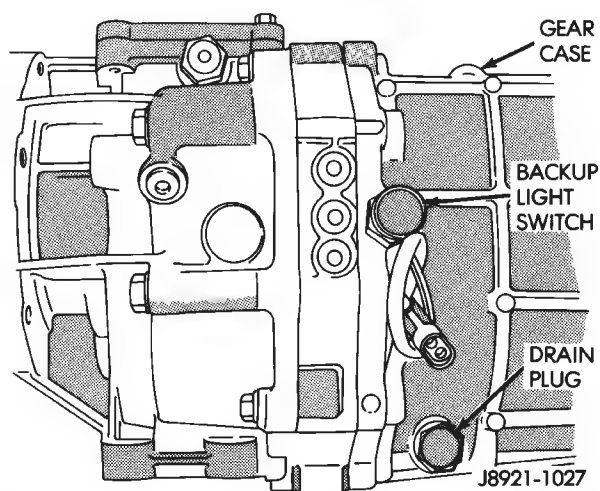

Fig. 1 Drain Plug And Backup Light Switch Location
(8) Reach up and around the transmission and insert shift lever in shift tower. Press lever retainer downward and turn it clockwise to lock it in place. Then install lever dust boot on shift tower.
(9) Install and connect crankshaft position sensor.
(10) Align and install transfer case on transmission. Tighten transfer case attaching nuts to 35 N·m (26 ft. lbs.) torque.
(11) Connect transfer case vacuum and vent hoses.
(12) Install and connect transfer case shift linkage. Check and adjust linkage if necessary.
(13) Secure wire harnesses to clips/tie straps on transmission and transfer case.
(14) Connect backup light switch wires.
(15) Install clutch slave cylinder.
(16) Connect vehicle speed sensor wires.
(17) On XJ, install rear crossmember and attach cushion and bracket. Tighten crossmember-to-frame bolts to 41 N·m (30 ft. lbs.) torque. Tighten transmission-to-rear cushion and bracket bolts/nuts to 45 N·m (33 ft. lbs.) torque.
(18) On YJ, install rear cushion and bracket and skid plate. Tighten attaching bolts/nuts to indicated torque (Fig. 1).
(19) Align and install front/rear propeller shafts. Tighten shaft U-joint damp bolts to 19 N·m (170 in. lbs.) torque.
(20) On XJ, install skid plate if removed. Tighten bolts to 42 N·m (31 ft. lbs.) torque. Tighten stud nuts to 17 N·m (150 in. lbs.) torque.
(21) Top off transmission and transfer lubricant levels.
(22) Remove supports and lower vehicle.
(1) Remove release bearing, release lever and release fork from clutch housing. Then remove clutch housing from transmission.
(2) Remove backup light switch. Then remove drain plug (Fig. 1) and drain transmission lubricant into pan.